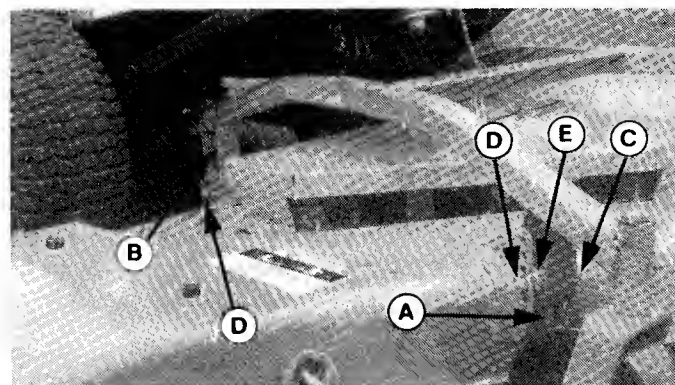

Figure 27. Mower Leveling
2. Make sure that the mower does not rock from side-to-side. All four leveling bolts (A, figure 27) should bear weight from spacers (E).
3. Turn the blades side-to-side, and measure from outside tips of blade to ground. If there is more than 1/8 inch difference, raise or lower one side of the mower. To do this, turn in, or out, the leveling bolt at front (A, figure 27) and the leveling bolt at rear bracket (B). Be sure to turn both bolts the same number of turns. Recheck the measurement, then go to step 4 to check front-to-back leveling.
To change the cutting height of the mower, remove four clips (C, figure 27) and move pins (D) to a different hole. The pins must be in corresponding holes at all four locations so the cut will be even.